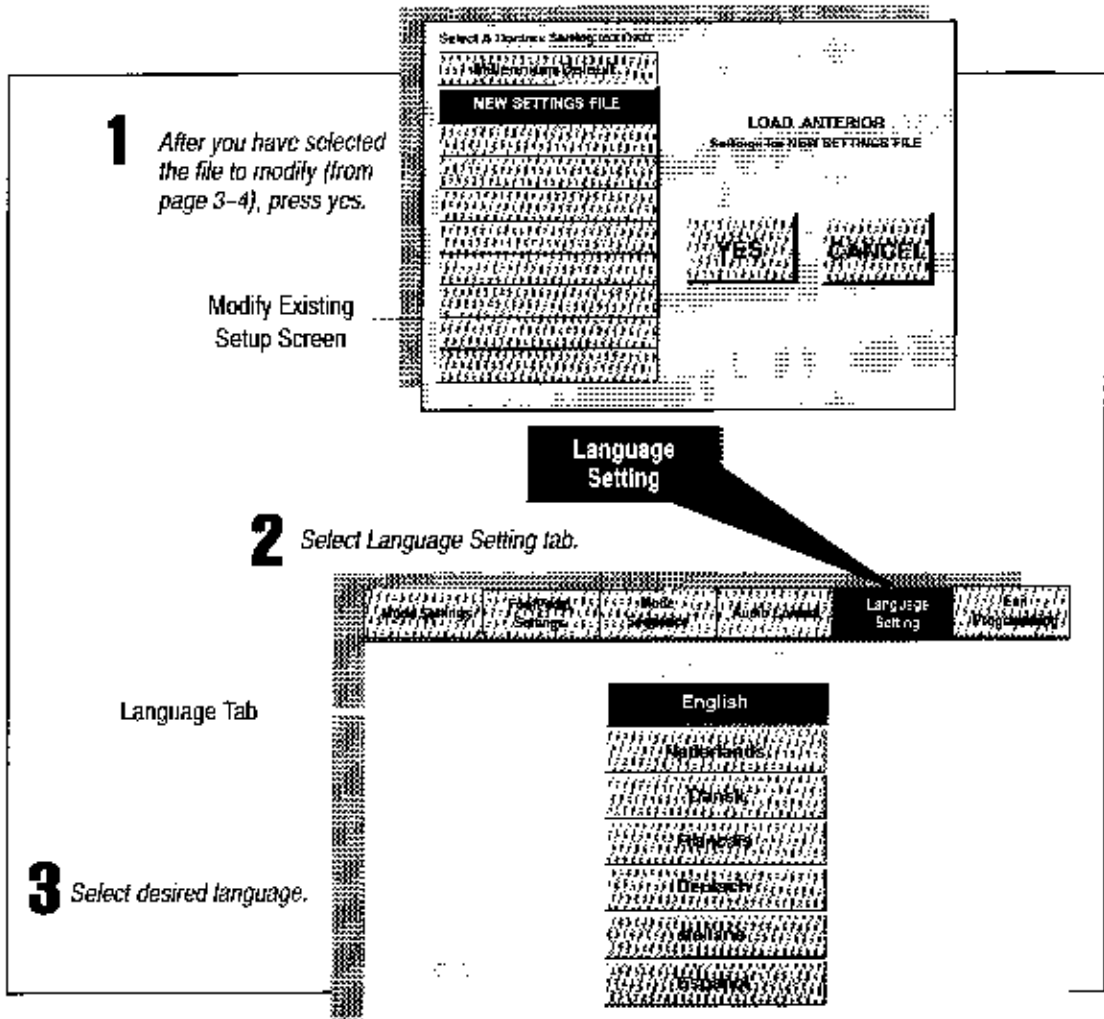

Figure 3-7 Customizing Language Setting
- **Language Setting**—Select the language to be used (see figure 3-7 on page 3-11).